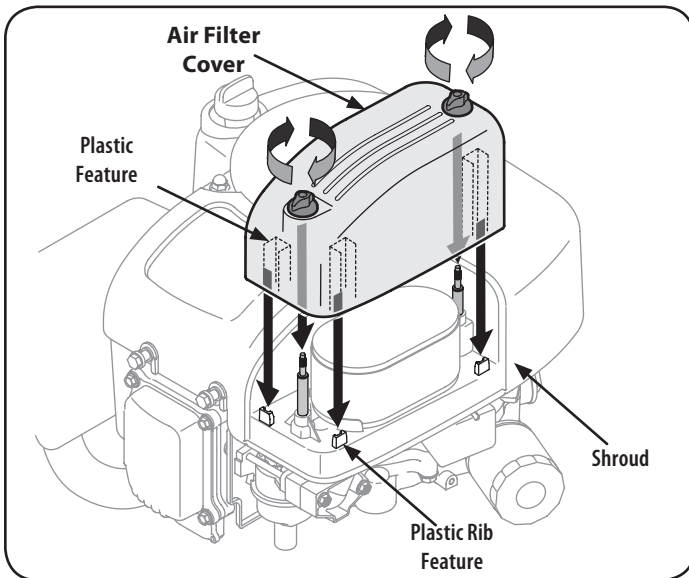

Figure 11
7. Attach the air filter cover, making sure to align plastic rib features on the shroud to the plastic features on the air filter cover. See "Figure 11". Turn thumb screws clockwise until snug. Check for any misalignment.